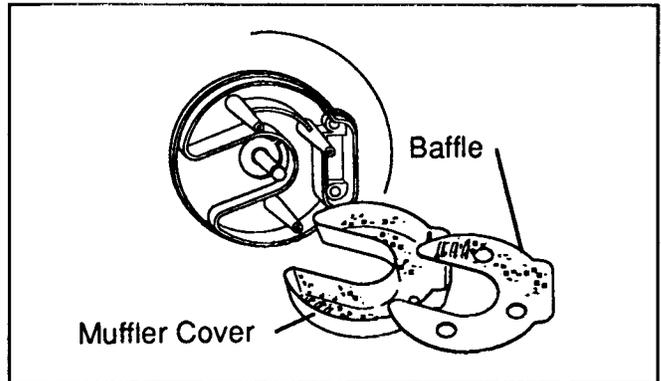

Figure 8
4. Remove the three bolts to remove the muffler cover. Drop the cover down to inspect the condition of the exhaust ports, etc. (Figure 8).